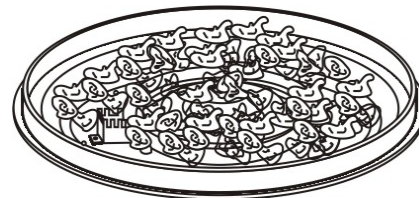

Figure 4
2. Pour all of the lava rocks(not included) into the burner pan. Completely cover the burner tube with lava rocks as shown in Figure 4.